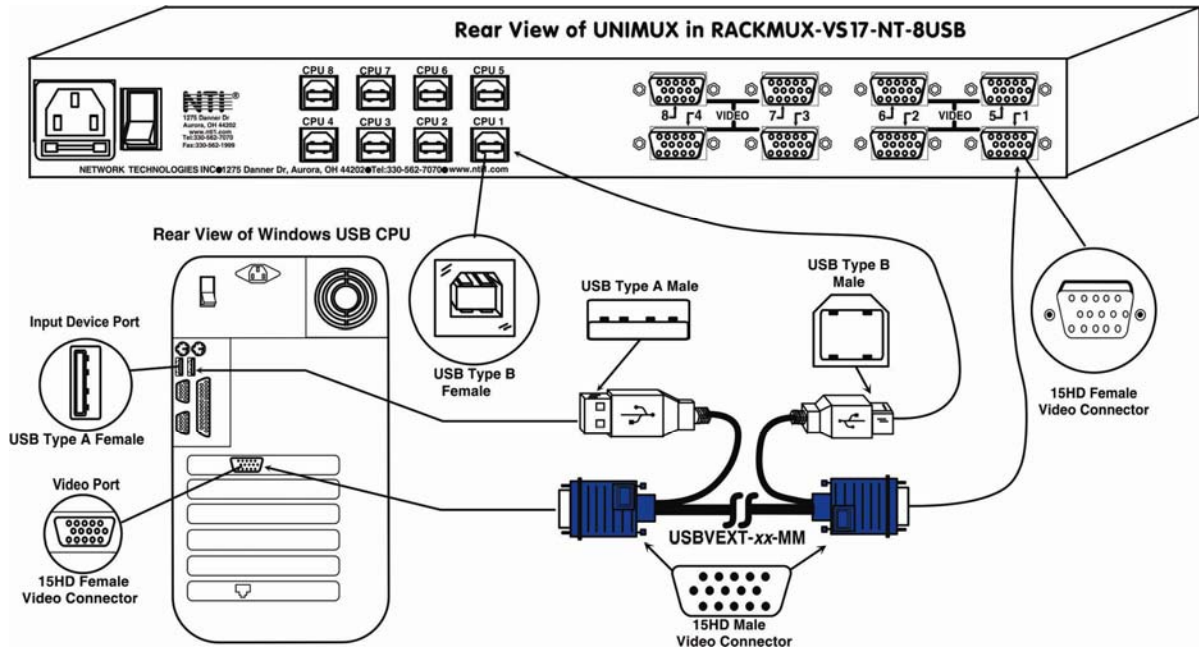

Figure 8- Connect each CPU
1. Connect each CPU to the UNIMUX switch using a USBVEXT-xx-MM video and input device interface cable – REQUIRED (not supplied). (See Figure 8)